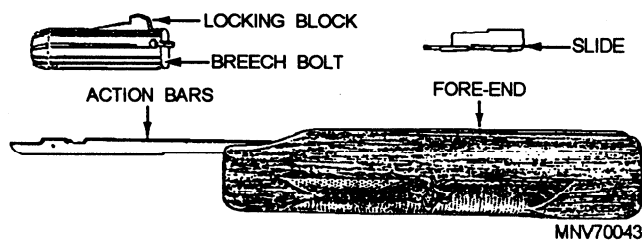

Figure 2-30.—M870 fore-end assembly.
**UNLOADING THE GUN.**—Push the safety to the SAFE position. Press in the action bar lock; pull the fore-end (fig. 2-30) slowly rearward until the front end of the shell from the barrel is even with the ejection port in the receiver. Lift the front of the shell outward and remove it from the ejection port. Continue pulling the fore-end back fully until the next shell releases from the magazine. Roll the gun sideways to allow the released shell to drop from the ejection port. Close the action by pushing forward on the fore-end. Continue this procedure until the magazine and the gun are empty.